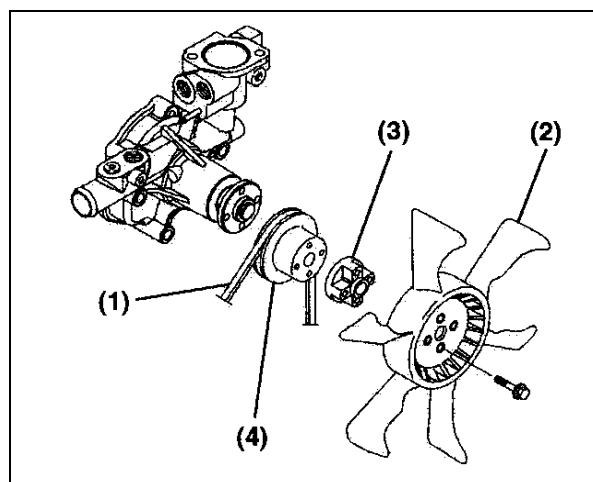

Figure 1
- (1) Loosen the cooling fan V-belt.
- (2) Remove the engine coolant fan guard (if equipped), engine coolant fan (Figure 1, (2)), spacer (Figure 1, (3)) if equipped, V-pulley (Figure 1, (4)) and cooling fan V-belt (Figure 1, (1)).